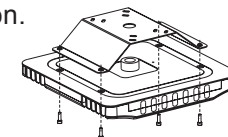

Figure 6
- I: 1. Fix the mounting bracket on the back of fixture by supplied screws. (Figure 6)